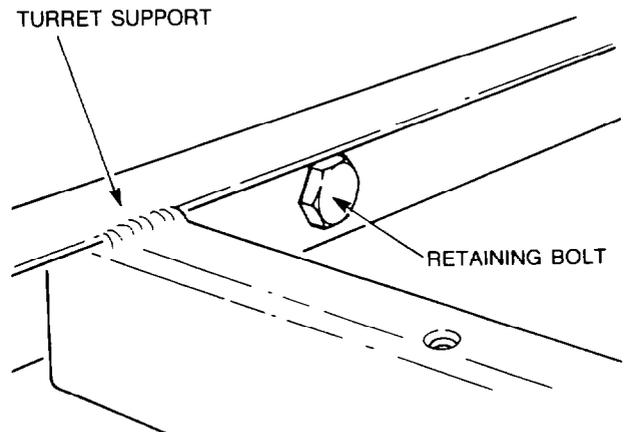

Figure 14 — Condenser Turret Support — Removal
- d. Remove the six bolts securing the condenser turret support to the module roof, then remove the support (see Fig. 14).